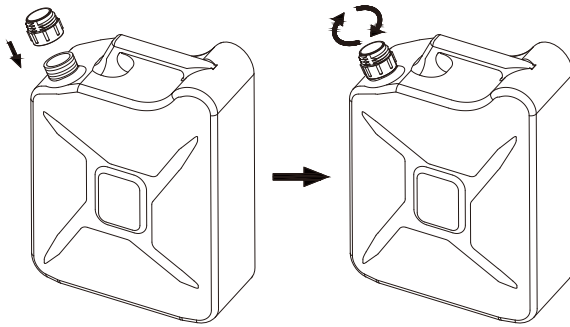

Fig.4
2.Insert intake hose through the adapter and fasten the pump's joint nut tightly as Fig.4